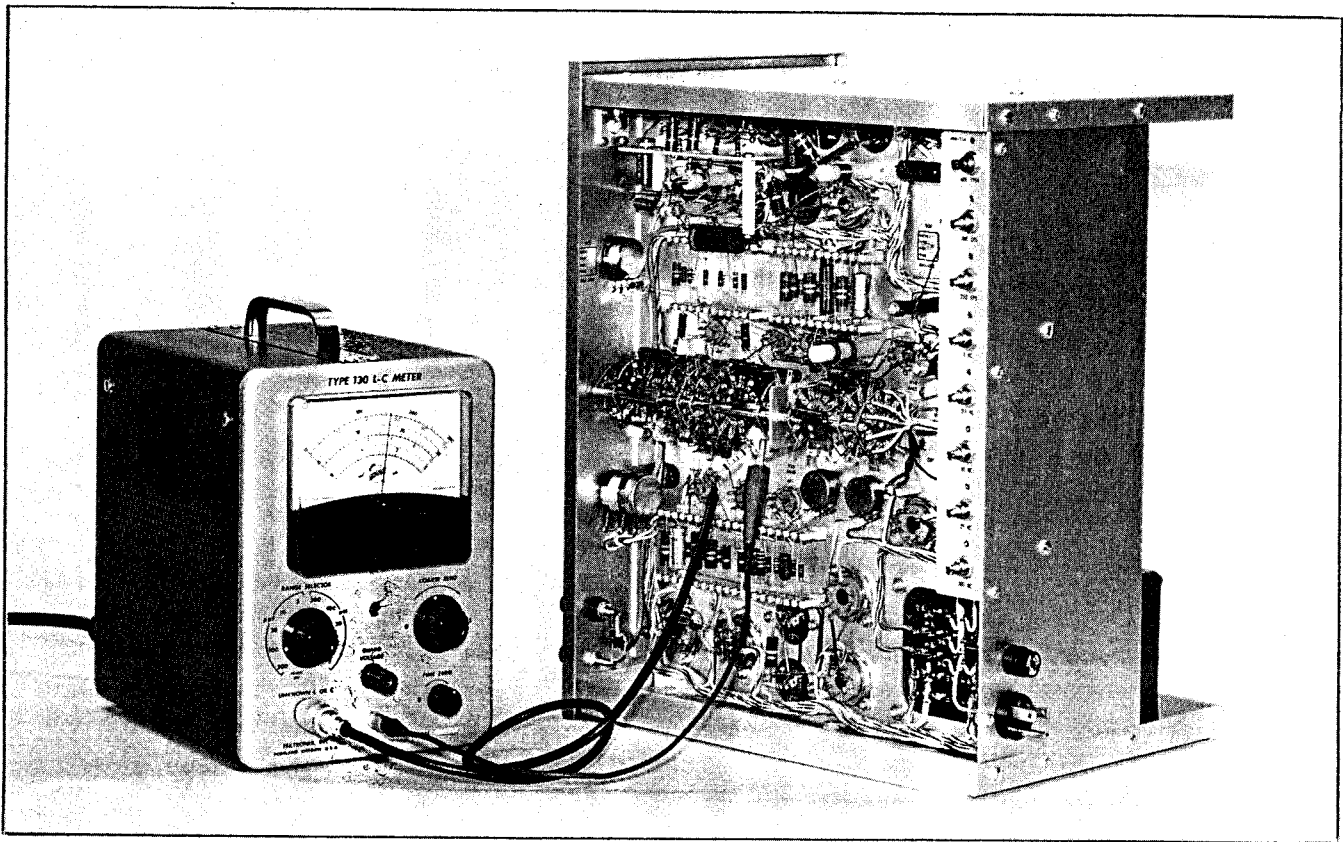

Fig. 2-6. Mounted capacitor measurement using P93C Probe.
2. The unknown ground lead may be held by an alligator clip at the end of one of the flexible leads supplied with the instrument. Do not lay the unknown on a conducting or dielectric surface. The ground clip can be used as the connection to a capacitor that has had the other end unsoldered from a circuit. Make the measurement as in 1 above. See Fig. 2-6.